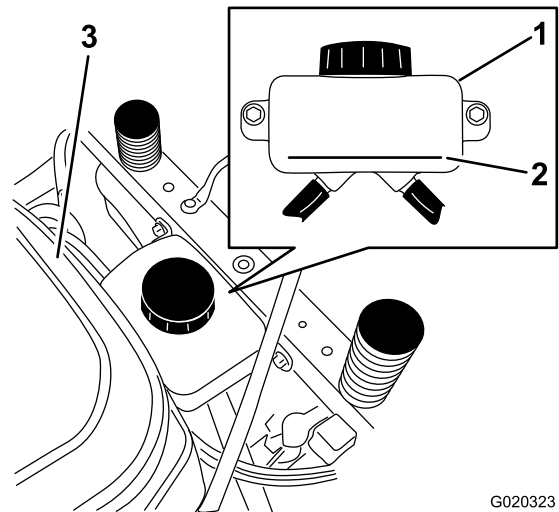
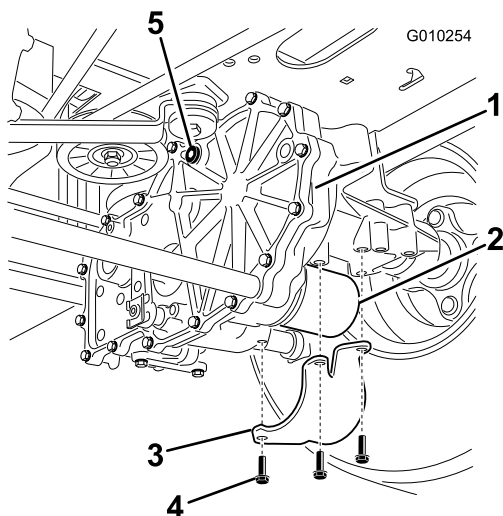

Figure 46
Figure 47
3. Locate the filter and guards on each transaxle drive system (Figure 47).
4. Remove three screws securing the filter guard and remove the guard (Figure 47).
- A. Ensure that the vent plugs and reservoir cap are removed before adding the oil (Figure 46 and Figure 47).
- B. Slowly pour the specified oil through expansion reservoir until oil comes out of **one** of the vent plug holes and stop filling (Figure 47).
- C. Install that vent plug (Figure 47).
7. Add oil through the expansion reservoir until it reaches the FULL COLD line on the expansion reservoir and install the cap for the reservoir (Figure 46).
- D. Add oil through the expansion reservoir until oil comes out of the remaining vent plug hole on the second transmission and stop filling (Figure 47).
- E. Install that vent plug (Figure 47).
6. Stop the engine and check the oil level in the expansion reservoir. Add the specified oil as until it reaches the FULL COLD line on the expansion reservoir (Figure 46).
8. Check the oil level in the expansion reservoir one last time. Add the specified oil as until it reaches the FULL COLD line on the expansion reservoir if necessary (Figure 46).